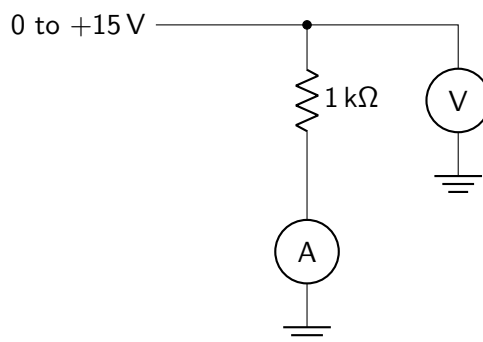

Figure 4: What's wrong with this innocent variation on the circuit of Fig. 2?
- (b) What would be wrong if you put the current meter on the low side of the resistor, as in Figure 4 below?
If the meters are ideal, it's not a problem. But we know that the ammeter has internal resistance (we measured it!). In the configuration of Figure 4, the voltmeter measures the voltage across $1\text{ k}\Omega + (\text{ammeter's internal resistance})$, when we in fact want to measure only the voltage across the $1\text{ k}\Omega$. So, we would measure a voltage that is slightly too large.